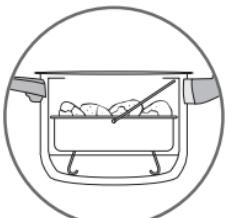

Fig 5
- Place the basket (J) onto the support (K) provided for this purpose - Fig 5